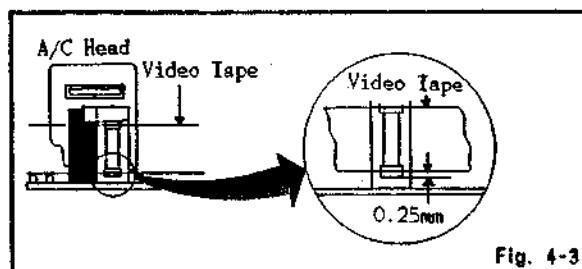

Fig. 4-3
3. Adjust the nut ④. (Refer to Fig. 2-2) until the height of the A/C head reaches the position against the tape as shown in Fig. 4-3.